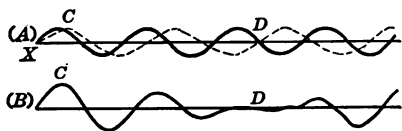

FIG. 252. — Interference.
It is easy to imagine that the crest of a water wave coinciding with the trough of another wave would fill the depression and tend to make the water surface level. In Fig. 252 we see how interference occurs. Suppose the heavy line in (A) represents a sound wave four feet long, and the dotted line a sound wave five feet long, both starting from the point X. In (B) we have a composite curve constructed